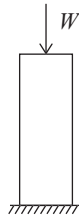

Figure 2.2
2. *Compressive stress*: As shown in Fig. 2.2 when load W tends to compress a rod of cross-section area A , then compressive stress = $\frac{W}{A}$.